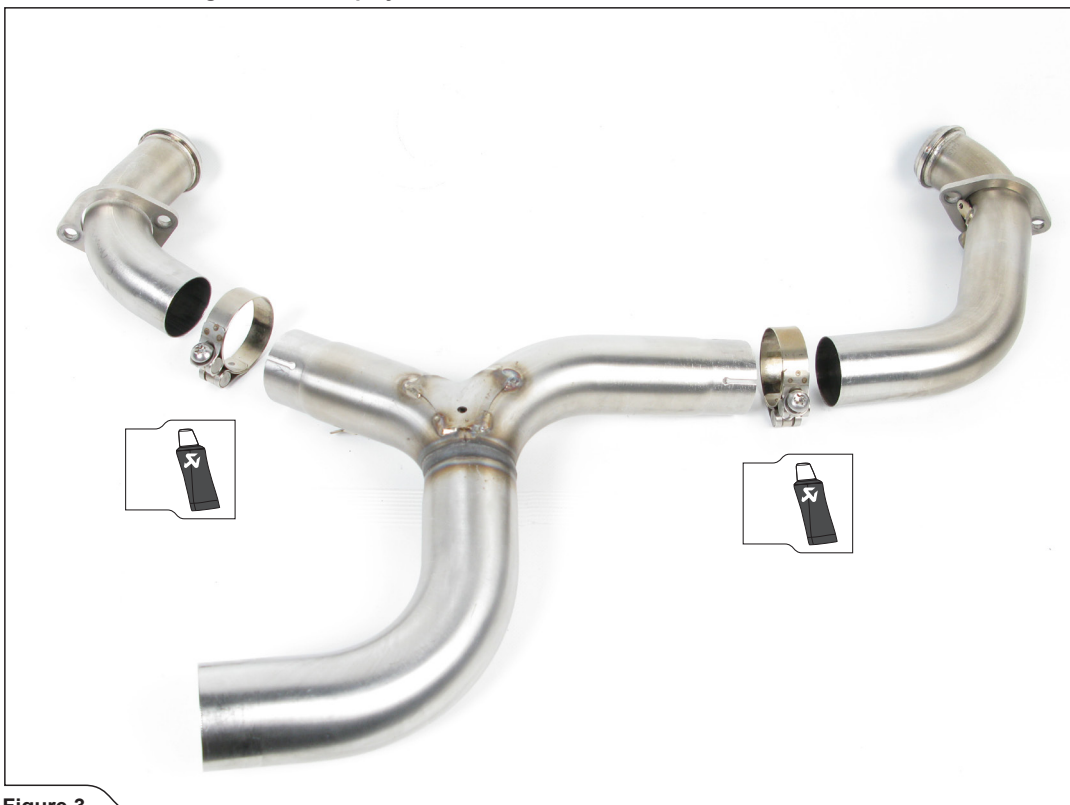

Figure 3
3. Assemble the front header, rear header, collector and clamps as shown (Figure 3).